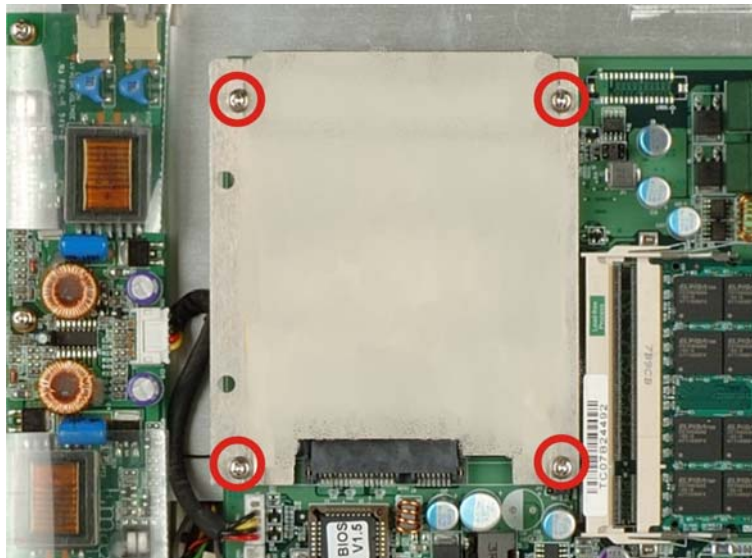

Figure 3-5: AFL-915 Hard Drive Bracket Retention Screws
Step 5: Remove the four HDD bracket retention screws (**Figure 3-5**) and lift the HDD bracket off the panel PC.